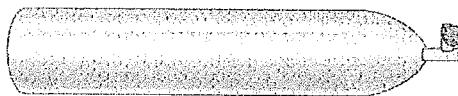

Figure 1 : Scuba diver's tank
- [b] A scuba diver's aluminum air tank (Figure 1) has an outer diameter of $d_0 = 200$ mm and a wall thickness of $t = 12$ mm, and it is pressurized to a service pressure of $p = 25$ MPa.